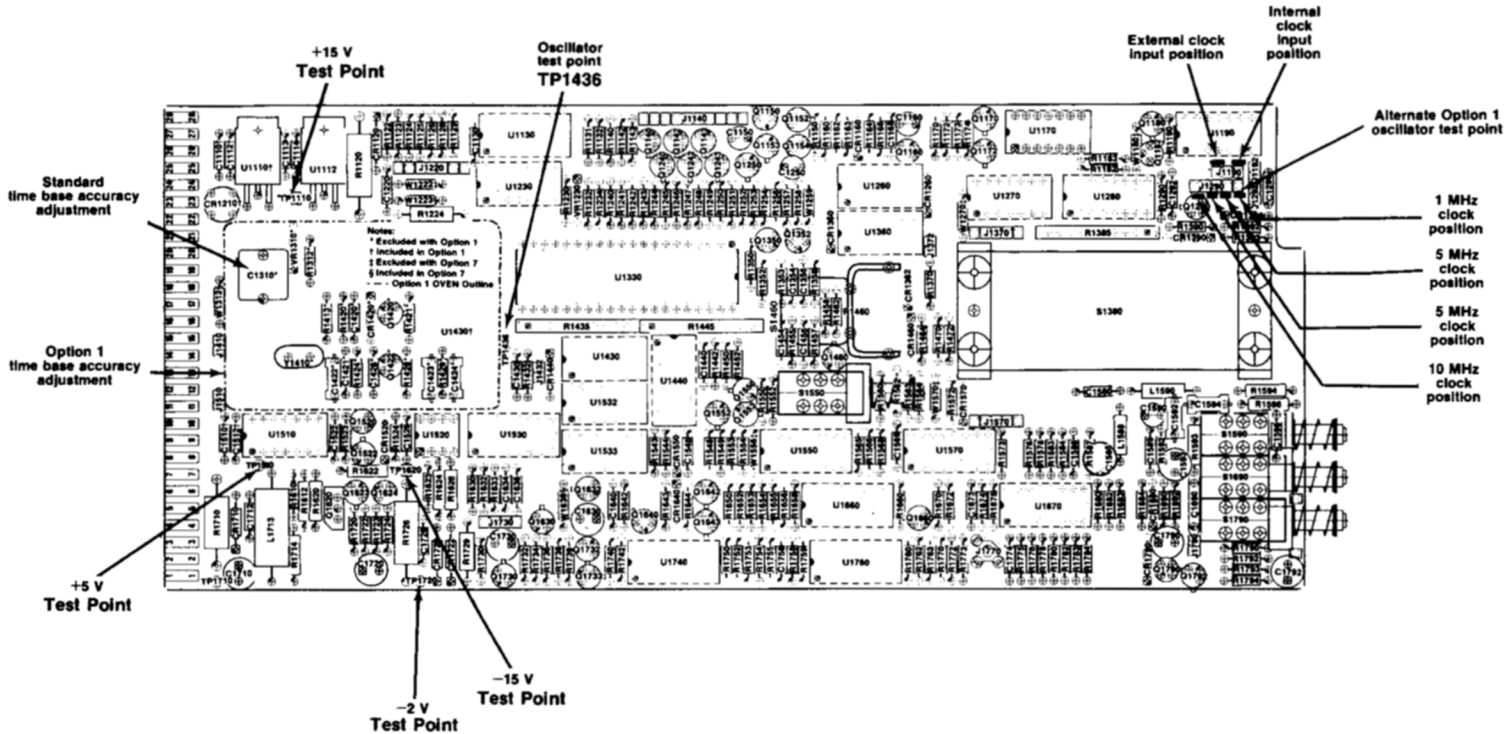

Fig. 4-1. Location of test points and adjustments on Main circuit board.
a. Connect the digital voltmeter between each voltage test point and ground for the supplies listed in Table 4-2. See Fig. 4-1 for test point locations.
a. Connect the 10X probe to the vertical amplifier (real time) input connector; connect the probe tip to the oscillator test point, TP1436. See Fig. 4-1 for test point location.
g. Adjust—C1310, time base accuracy adj, slowly until the displayed time marks remain stable, horizontally. See Fig. 4-1 for adjustment location.